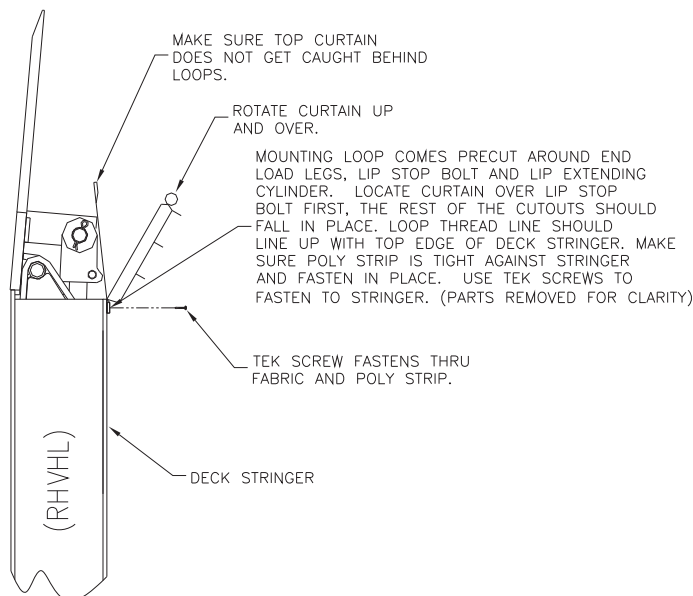

FIGURE 3
- 6) Rotate the curtain up and against the back of the lip. (See Figure 3.) Make sure the mounting loops fit around the end load legs. This will center the curtain for fastening. Make sure the poly strips in the pockets are located to land on top of a deck stringer. The poly strip between the end load legs will get fastened to the deck stringers next to the legs. The poly strip to the inside of the lip extending cylinder gets pushed next to the end load leg then fastened to the deck stringer. The poly strip to the outside of the lip extending cylinder gets pushed next to the lip stop bolt. Always fasten to the deck stringer at the lip stop bolt, and if available, to the outside stringer. The poly strip on the opposite side of the lip extending cylinder gets pushed next to the end load leg and attached at the end load leg stringer and the outside stringer.